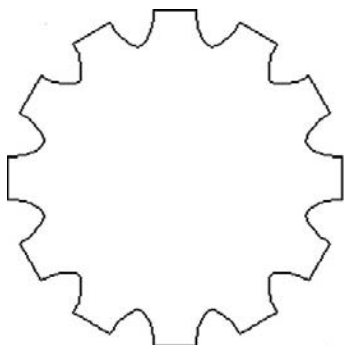

FIGURE 25.29
- Step 1.** Draw a circle and one tooth, similar to what is found on a gear. Then, array it 12 times around the circle. Finally, do a little bit of cleanup trimming and edit the entire structure. This is your basic profile, as seen in Figure 25.29. You need not draw the exact same thing; something close is just fine.